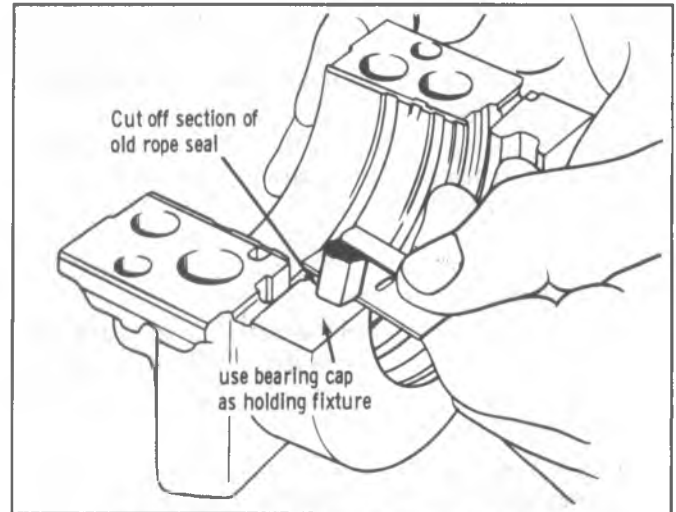

Fig. 6A6-102--Cutting Off Lower Seal Ends
9. #5 bearing - Install new asbestos oil seal in the rear main bearing cap. (REAR MAIN BEARING OIL SEAL) (Fig. 6A6-100) Install #1050026 or equivalent sealer on cap as shown.